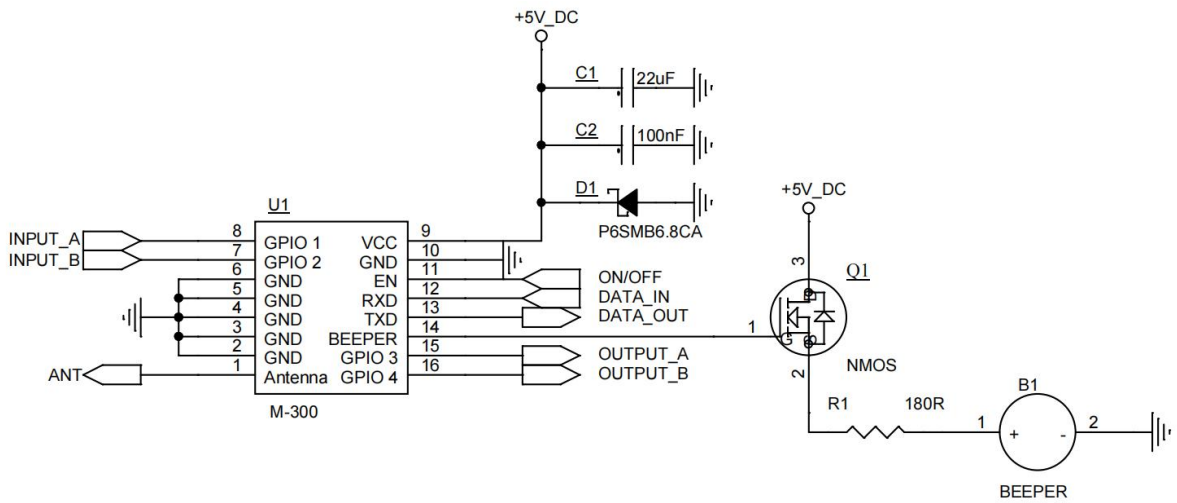

Figure 5-1 Circuit Design For Reference
- > Very easy to be embedded (Refer to circuit design Figure 5-1).